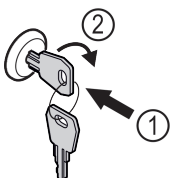

Fig. 155 Example illustration
- Insert key Fig. 155 (1).
- Turn key clockwise by 90° Fig. 155 (2).